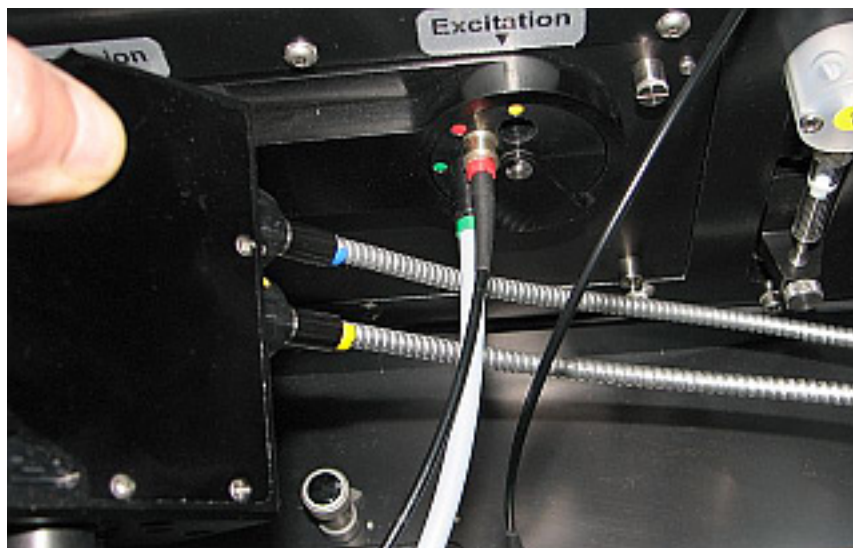

Figure 20: Feeding the light guides of the TRF-optic head
1) Open the lid of the reagent box of the FLUOstar/POLARstar Omega. Take the body of the TRF-optic head in the left hand, the light guides in your right hand and feed them through underneath the already installed excitation light guides. The light guides should be carefully placed outside of the instrument to prevent them from scratching the inside of the reagent box. (Figure 20).